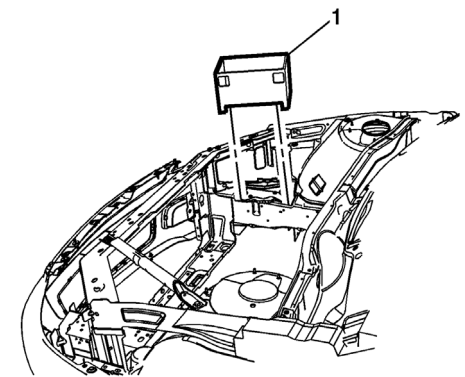

Fig. 8 Battery insulator removal
13. Remove battery insulator (1), **Fig. 8**.
1. Install battery insulator (1), **Fig. 8**.